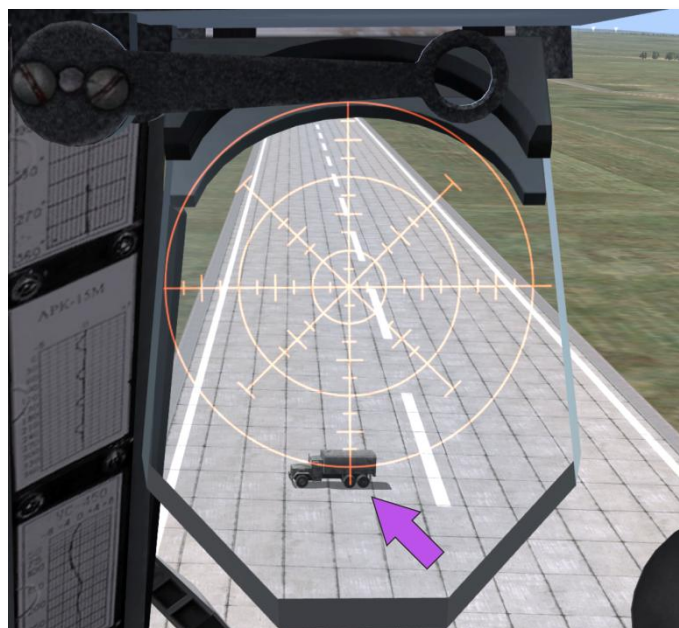

Рис. 9.9. Bomb release point in calm weather or only head/tailwind; altitude 50 m
- In a head or tailwind condition (as well as no wind), bombs are released when the target passes through the bottom of the outside ring of the reticle (Рис. 9.9);